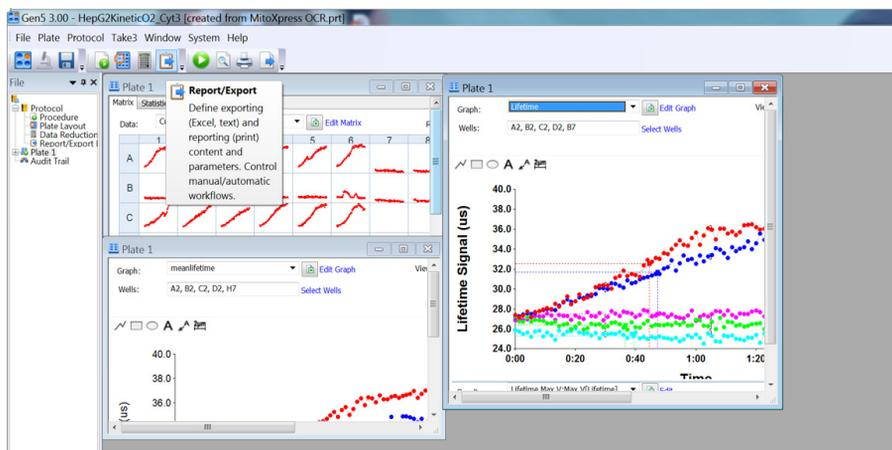

Figure 15. Exporting a Data File in Gen5 Software, Creating a new Report/Export
- 1 Open the Data file in Gen5 software. Click the **Report/Export** button. See Figure 15.